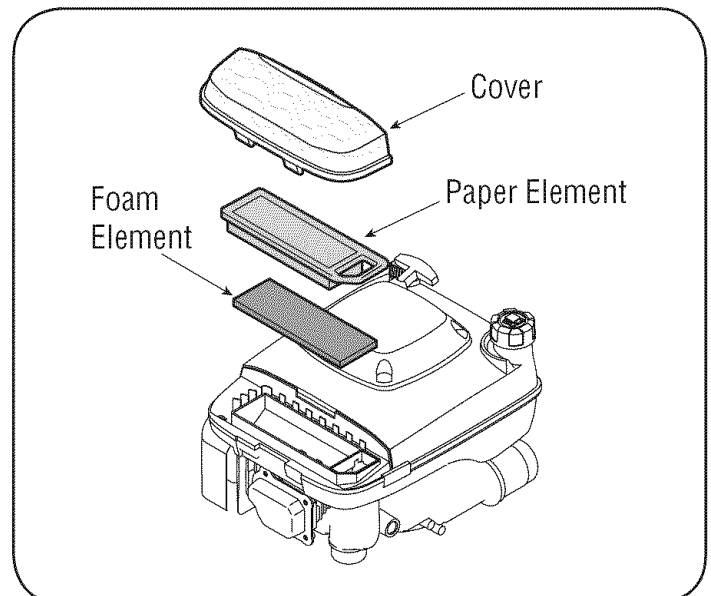

Figure 14
- Clean foam element after first 8 hours of use, then every 25 hours of use thereafter. See Figure 14.
- Clean paper element after first 8 hours of use, then every 100 hours of use thereafter. See Figure 14.